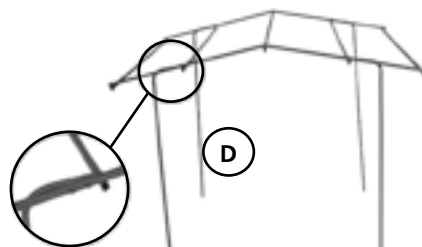
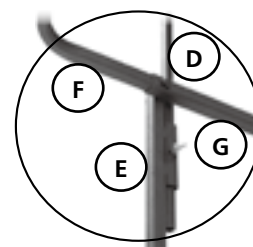

FIGURE 4
FIGURE 5
5. Locate the four (4) frame posts (D) (refer to Figure 2&4). Install the frame posts onto the side frame tubes (C) as shown in Figure 4 using two (2) 6m x 1-5/8" bolts and two (2) 6mm locknuts per frame post. Repeat this STEP for the three (3) remaining frame posts. With the canopy frame assembled, gently install it onto the rail support tubes (E) as shown in Figure 5.